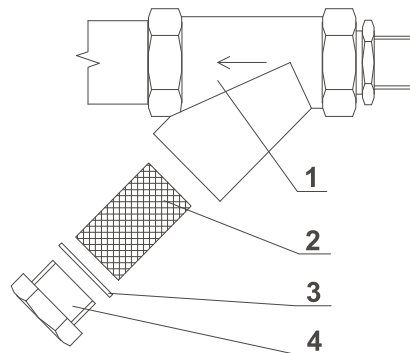

Fig.5.10.
2. Unscrew the filter plug (fig.5.10., pos.4) and remove the filter sieve (2).
4. Put the sieve (2) and gasket (3) back to the filter body (1) and tighten the plug (4).